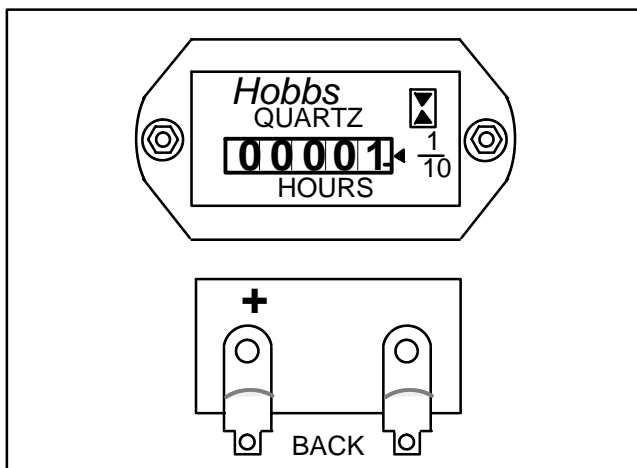

Figure 37
3. Connect the positive (+) terminal of a 12 VDC source to the positive (+) terminal of the hour meter (Fig. 37).
5. The hour meter should move a 1/10 of an hour in six (6) minutes.